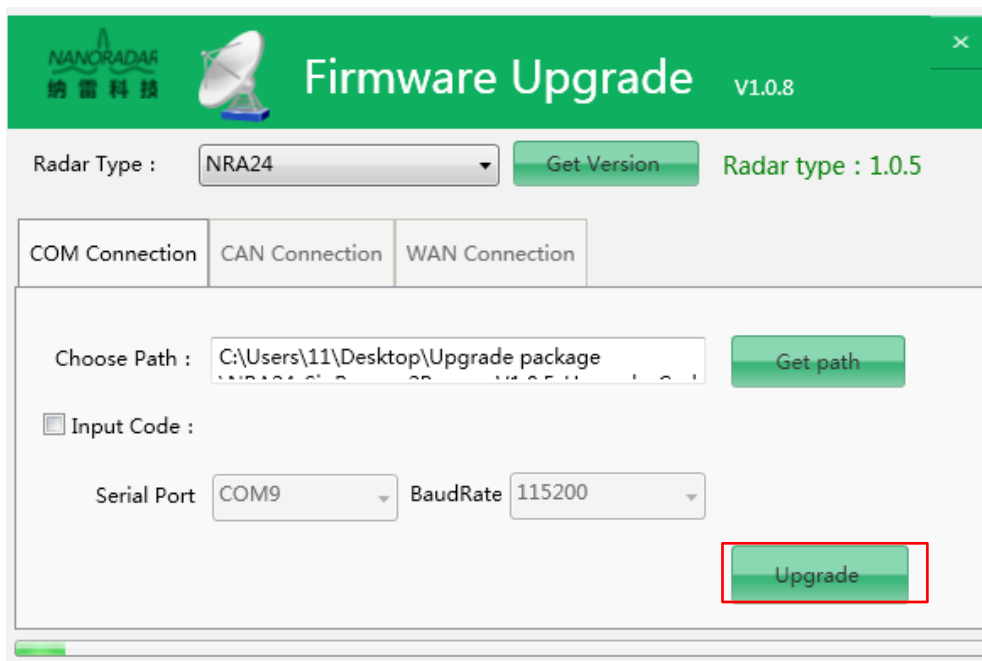

Figure 16 Upgrading
d) Click on the "Upgrade" button, as figure 16. Serial Port and BaudRate is generally as default.